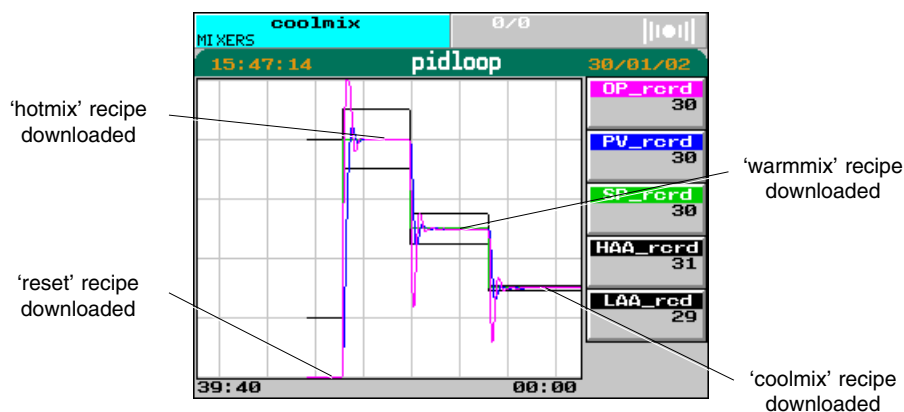

Figure 5-3 Trend showing the recipes in action
- 7 Try selecting and downloading the 'coolmix' and 'reset' recipes. Figure 5-3 shows how your overview trend might look at this stage.